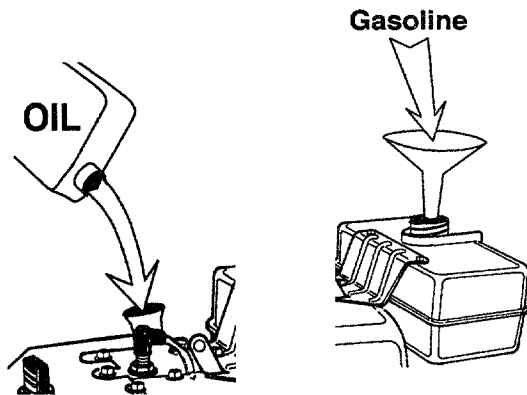

FIGURE 17
- Pour the oil and fill the crankcase to line (Full) on dipstick (19 ounces). See figure 17.
**NOTE:** Oil must be changed after the first two (2) hours of operation to extend engine life.
- Fill fuel tank with clean, fresh, unleaded grade automotive gasoline. See figure 17.